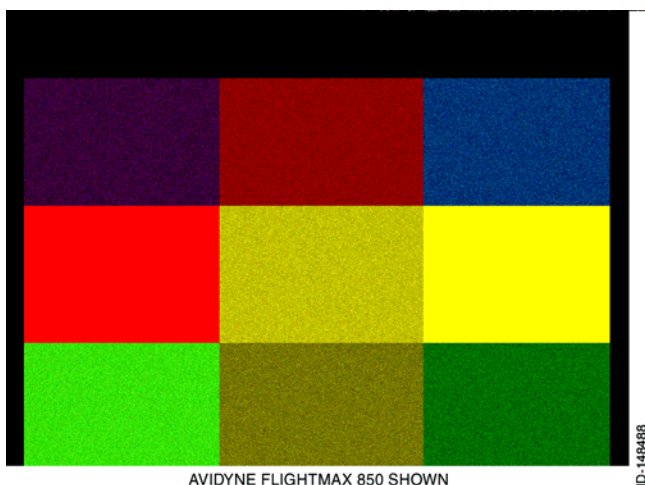

Figure 19-10
5. When a self-test is initiated, the test continues through a sequence resulting in turning ON and OFF all system annunciators, broadcasting specific audio messages, and if enabled, displaying a video test pattern on the terrain display, as shown in Figure 19-10. Any functions determined inoperative are broadcast, (for example, GLIDESLOPE INOP). When self-test is completed, it terminates automatically.
- Terrain test pattern is displayed (as shown in Figure 19-10).